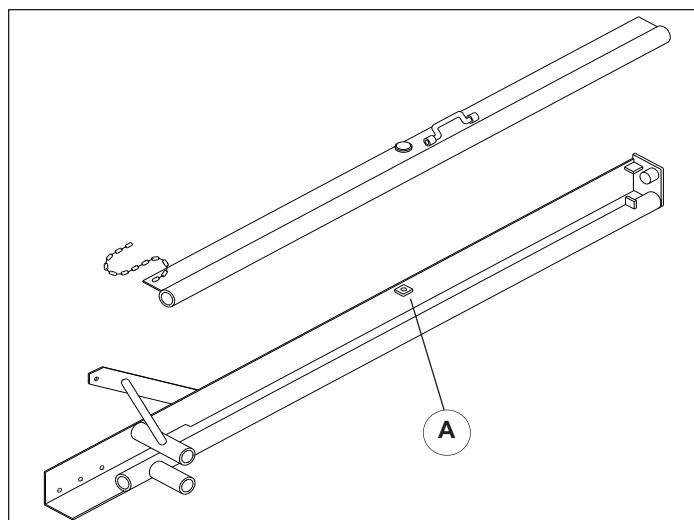

Figure 4.1
1. Loosen knob (A), slide cover upward and remove from sideframe, Figure 4.1. Determine if the floor is level. If the floor is out of level, mount the highest side door side frame first. Mount the lower side door side frame and shim until it is level with the high side door frame. Make sure that the header is level and that the distance between the frames does not vary more than 1/16".